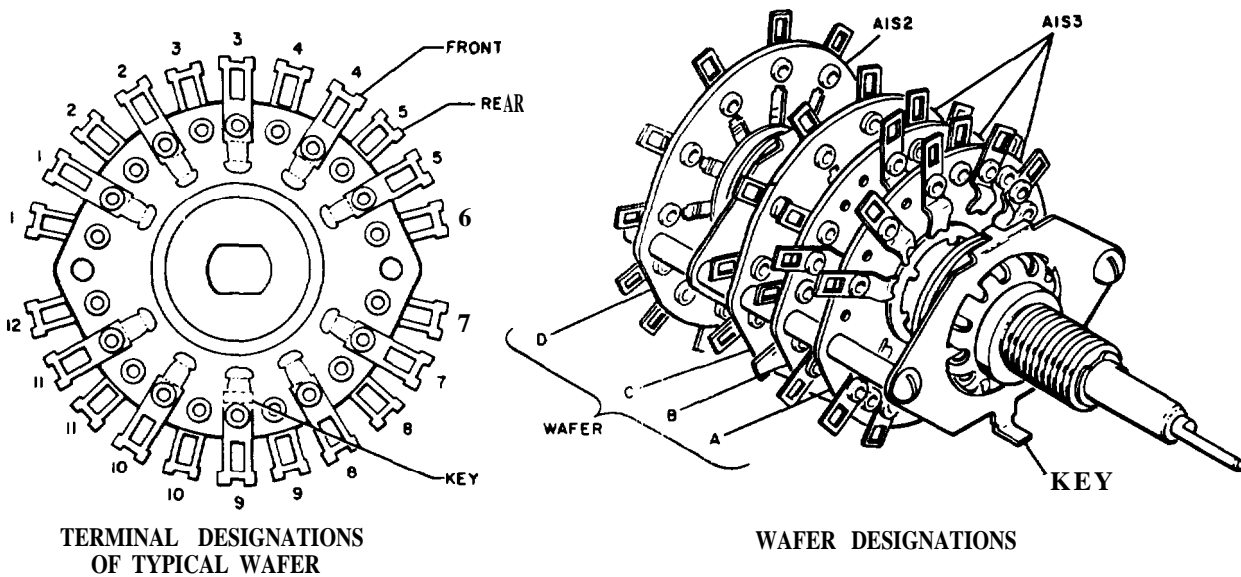

Figure 5-15. Time Base Switch AIS3 and STD FREQ OUT Switch AIS2, Wafer and Terminal Designations
- (1) Perform the procedure of paragraph 5-51 to gain access to A1S2/A1S3.
- (2) Refer to figure 5-15 for wafer and terminal designations.
- (3) Disconnect the external leads from A1S2/A1S3 in the order listed in table 5-17. Code-mark leads to insure proper reassembly.